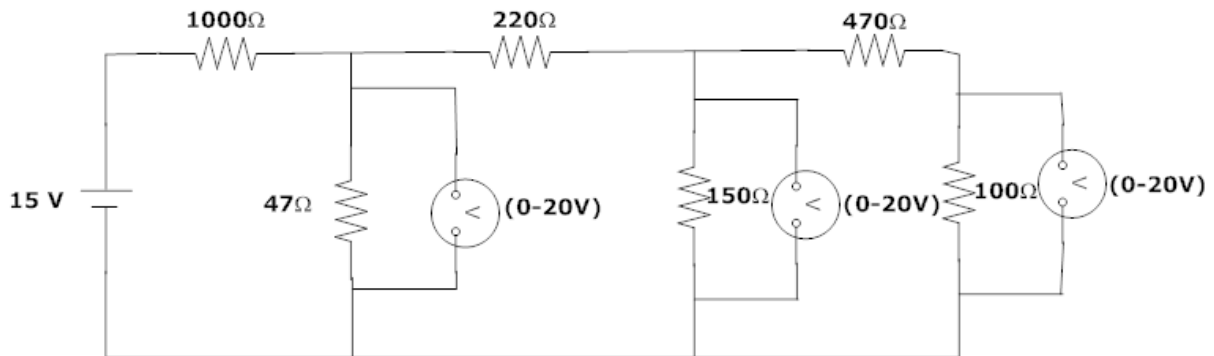

Figure 1.2.1 Nodal Analysis
1. Connect the circuit diagram as shown in Figure 1.2.1.